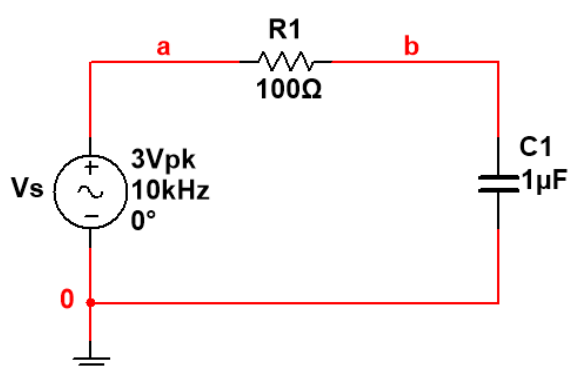

Fig.B.1.1: Series RC circuit
1. Measure the practical value of the resistor (R) using DMM and note down the value in Tables 1.1, 1.3 and 1.5. Use the measured values in all your calculations.
2. Measure the practical value of the capacitor (C) using an LCR meter and note down the values in Tables 1.1, and 1.5. Do the same for the inductor (L) and note down the values in Tables 1.3 and 1.5.
3. Construct the circuit shown in Fig.B.1.1 on the bread board. Connect Channel 1 of the oscilloscope across the source V_S (positive red port to node 'a' and negative black port to node '0' i.e. ground). Connect the channel 2 at node 'b' (positive red port to node 'b' and negative black port to node 0 i.e. ground).